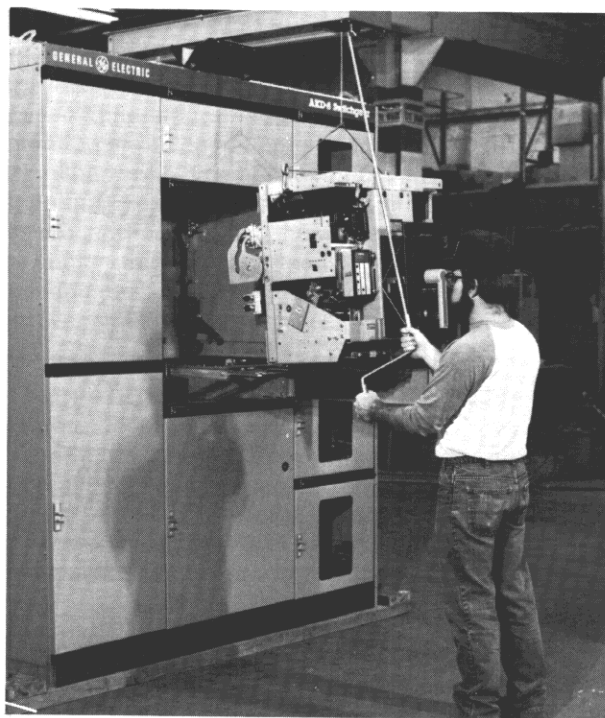

Fig. 5-7. Pull rails out completely from the circuit breaker compartment
4. Pull the rails out completely from the circuit breaker compartment, Fig. 5-7. Due to a different drawout mechanism for the larger AKR-75/100 breakers, refer to Section 5.3 for specific details on mounting these breakers on their drawout trays.